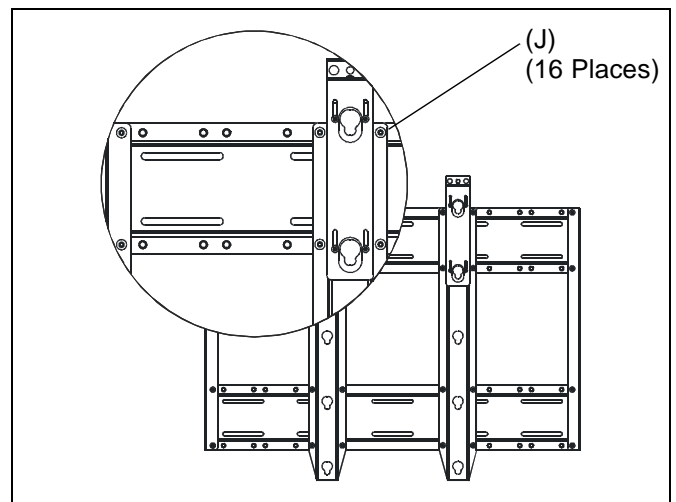

Figure 9
2. Using 3/16" hex key (L), loosely install vertical brackets (B) to wall plates (A) with 5/16-18 x 1/2" screws (J) according to dimension noted in previous step. Ensure that brackets (B) are installed so that the latches are towards the top of the mount.
- 14" horizontal dimension: Install brackets (B) to inside set of mounting holes, closest to center of mount. (See Figure 9)